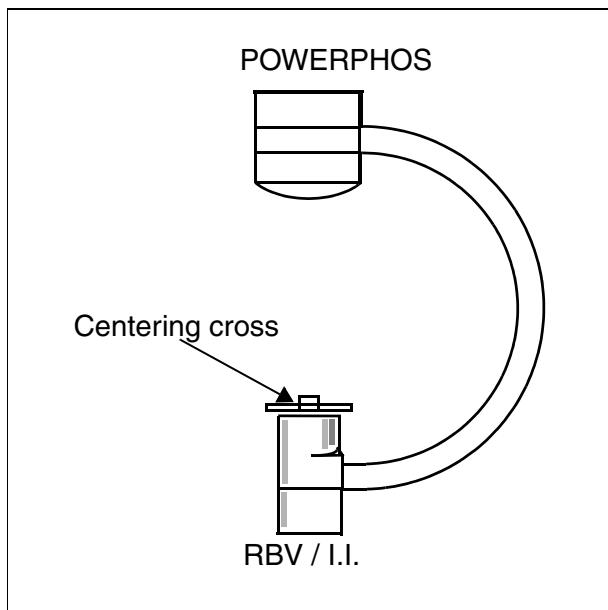

Fig. 9
- Attach the centering cross in the center of the I.I. (Fig. 9).